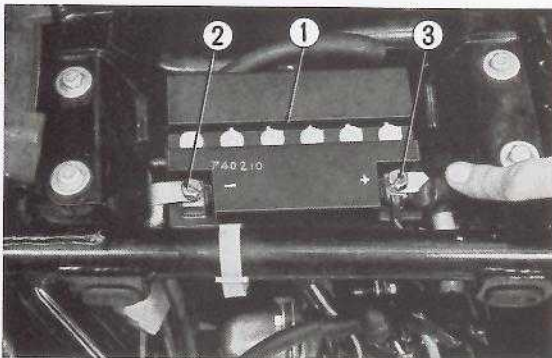

Fig. 10-1 ① Battery ②  $\ominus$  terminal ③  $\oplus$  terminal
2. Disconnect the ground  $\ominus$  negative cable connection first and the positive  $\oplus$  last. (Fig. 10-1)